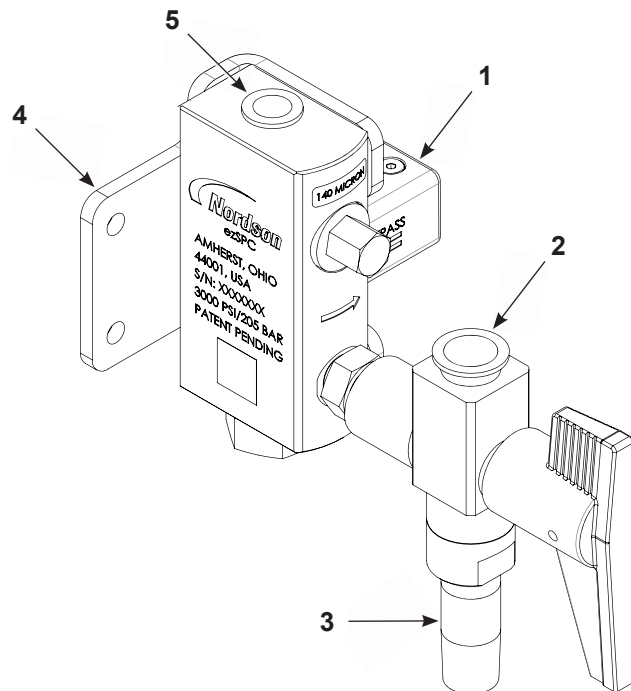

Figure 3 Complete ezSPC Installation
1. See Figure 3. Use the mounting bracket (4) to install the manifold with the drain nipple (3) facing down.
2. Install one of the supplied hydraulic fittings into the 1/4 NPT port (5). Connect a fluid line from the spray gun output to the fitting.
3. Install one of the supplied hydraulic fittings into the 3/8 NPT outlet port (2). Connect a fluid line from the outlet port to the fluid return line.
4. After the ezSPC manifold has been installed, turn the flow select knob (1) to *Bypass* to flush the fluid delivery system to remove any contaminants from the system.